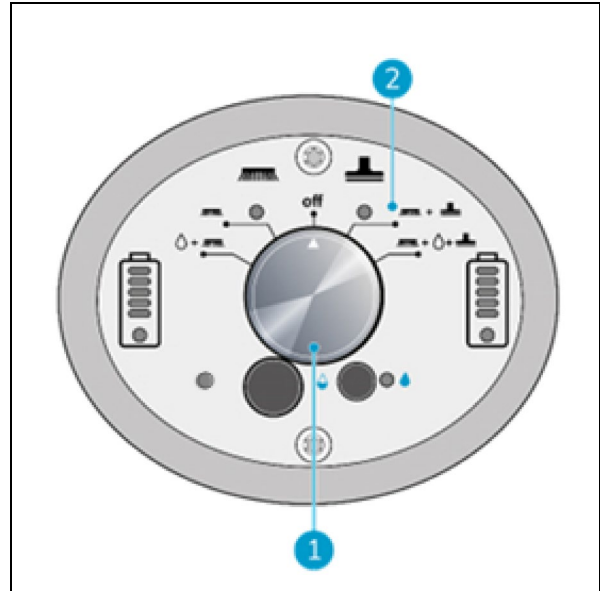

Figure 22
1. Use the i-mop XL main switch (Figure 22, pos 1) and choose MODE 3 Brush + Dry vacuum (Figure 22, pos 2).